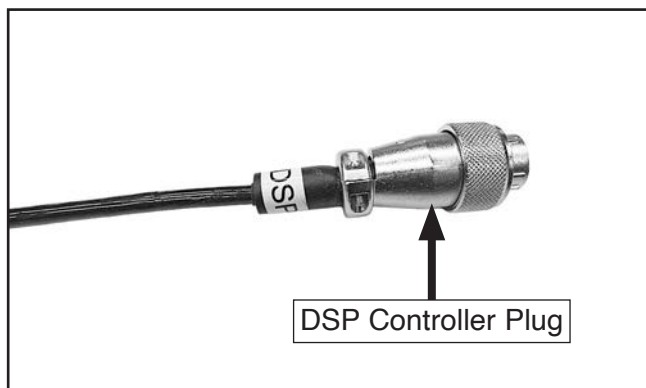
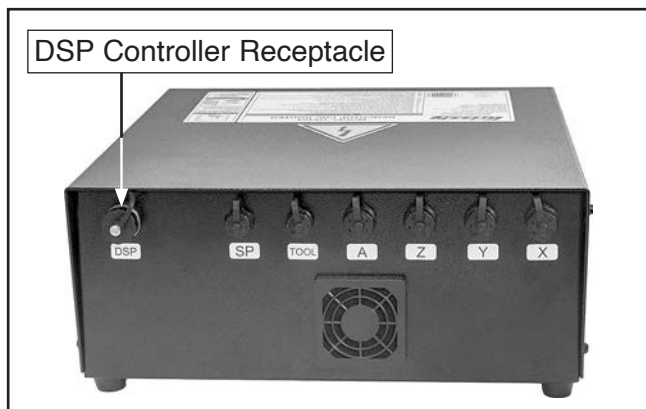

Figure 16. Location of DSP controller plug.
Figure 17. Location of DSP controller receptacle on control box.
3. Connect DSP controller plug (see **Figure 16**) to matching receptacle on rear of control box (see **Figure 17**).